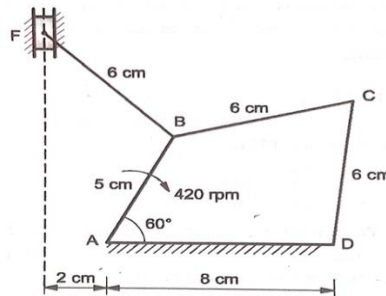

Fig.3.
- 4) Fig.3 shows a combined four bar & slider mechanism in which the crank AB rotates at a uniform angular speed of 420 rpm.